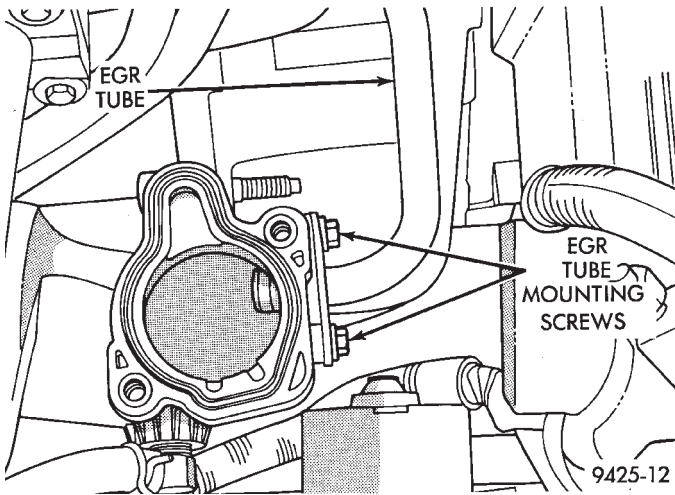

Fig. 11 EGR Tube Stud Bolts
- (1) Remove screws attaching EGR tube to intake manifold (Fig. 11).
- (2) Remove EGR tube to EGR valve screws.
- (3) Remove EGR tube. Clean gasket surface on the EGR valve. Wipe the grommet clean on the intake manifold.